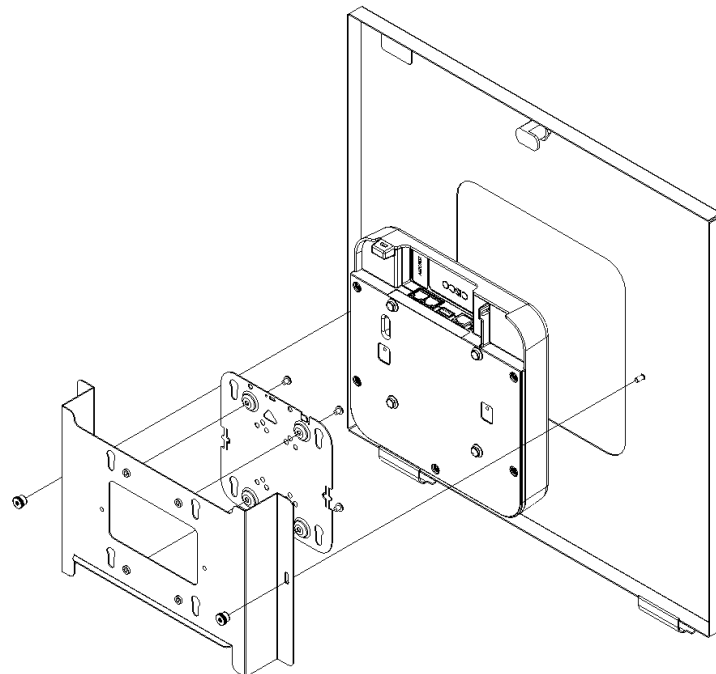

Figure 7
Step 6B – (For Cisco 2802i ONLY) Attach the Cisco 2802i's mounting bracket (AIR-BRACKET-1) to the Oberon mounting plate by aligning the raised area of the Cisco bracket with the threaded inserts on the Oberon mounting plate. Attach the mounting bracket by installing four (4) #8-32 screws. To attach the Cisco AP to the Cisco bracket, align the mounting feet of the AP with the keyhole slots of the Cisco mounting bracket and sliding the AP until it locks into place. The access point should be aligned so that the raised flange of the Oberon mounting plate is opposite the Ethernet port of the access point. (Ref. Figure 7).